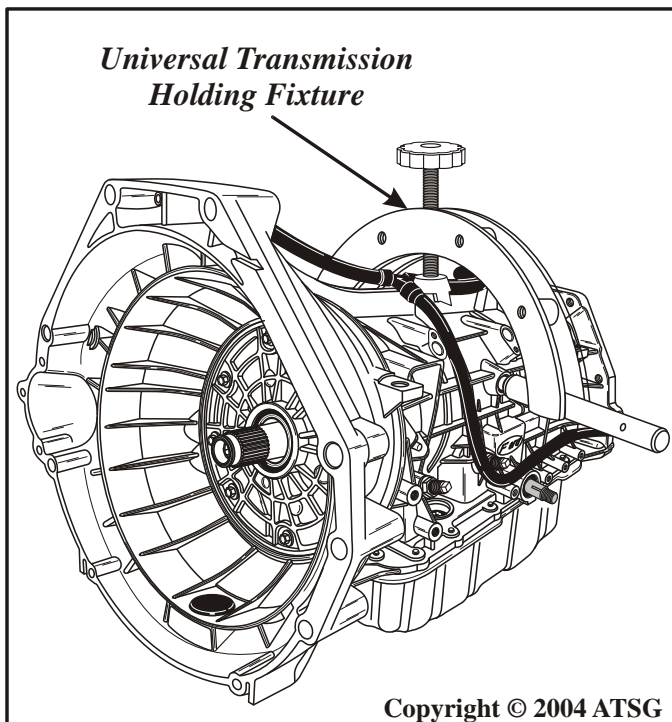

Figure 26
7. Install a compatible holding fixture onto the transmission case, as shown in Figure 26, that will allow you to rotate the transmission when installed in the bench fixture.